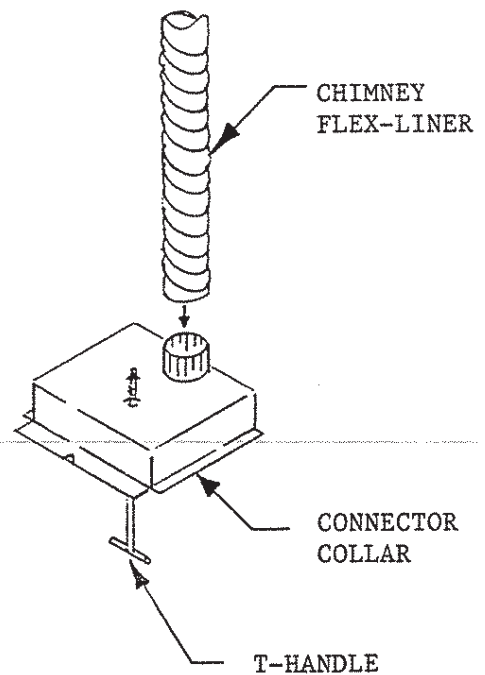

FIGURE 5
Slide the connector collar (removed from the unit) into the bottom of the previously installed chimney flex-liner and fasten the collar to the liner with a minimum of three (3) sheetmetal screws. See Figure 5.